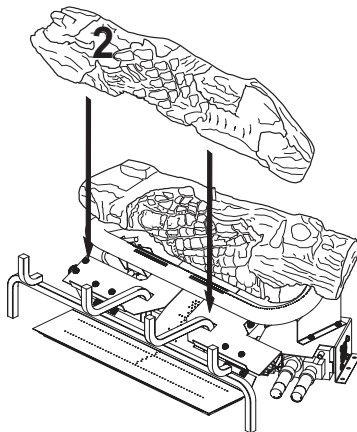

Figure 32 - Installing Log # 2
- Place the middle log (#2) in front of "U"-burner and against the edges of plate as shown in Figure 32.